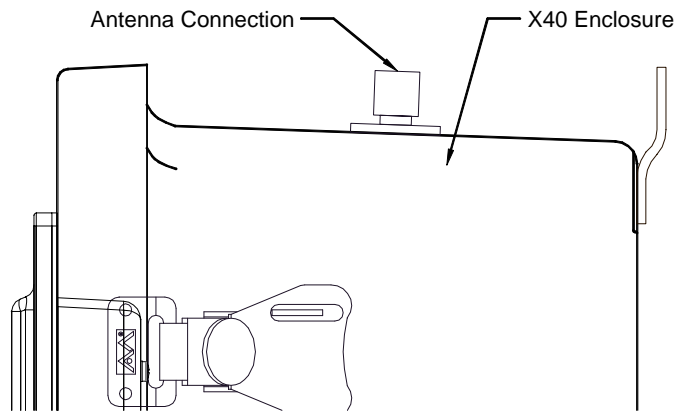

Figure 17 N4X Antenna Connector
- If the X40-N4X was ordered with the wireless option, the radio module is installed in the enclosure and an antenna connector is provided on the top of the enclosure (Figure 17). Mount the external antenna in an appropriate location with an unobstructed line-of-sight to the wireless devices. Connect the RF cable from the connector on top of the X40 to the antenna.